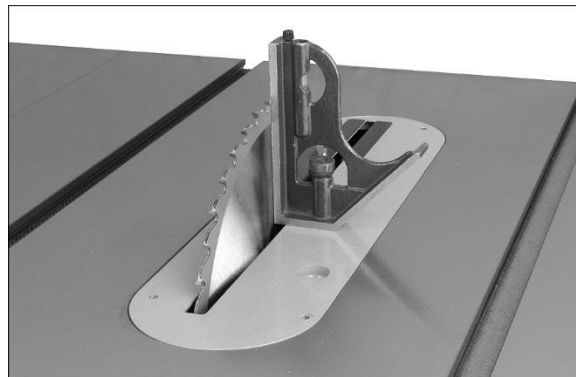

Figure 8-4
3. Raise blade to highest position, and place a square on table and against blade (Figure 8-4). Make sure that a blade tooth does not obstruct the actual reading.